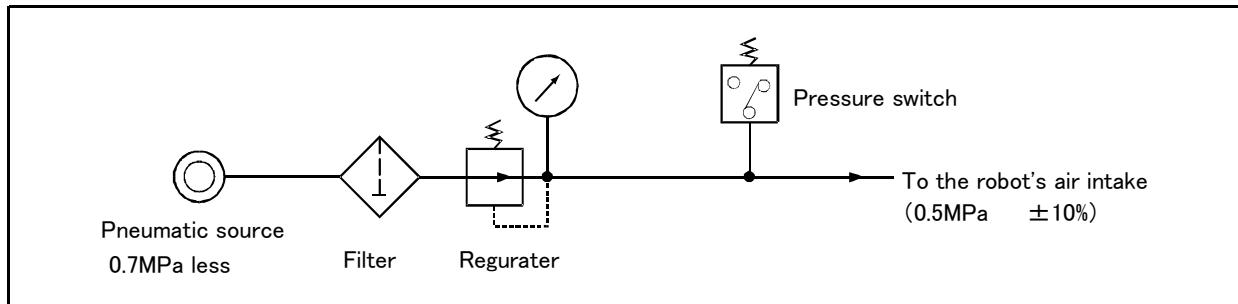

Fig.2-11 : Air supply circuit example for the hand
Fig. 2-11 shows an example of pneumatic supply circuitry for the hand.
(1) Place diodes parallel to the solenoid coil.
(2) When the factory pneumatic pressure drops, as a result of the hand clamp strength weakening, there can be damage to the work. To prevent it, install a pressure switch to the source of the air as shown in Fig. 2-11 and use the circuit described so that the robot stops when pressure drops. Use a hand with a spring-pressure clamp, or a mechanical lock-type hand, that can be used in cases where the pressure switch becomes damaged.
(3) The optional hand and solenoid valve are of an oilless type. If they are used, don't use any lubricator.